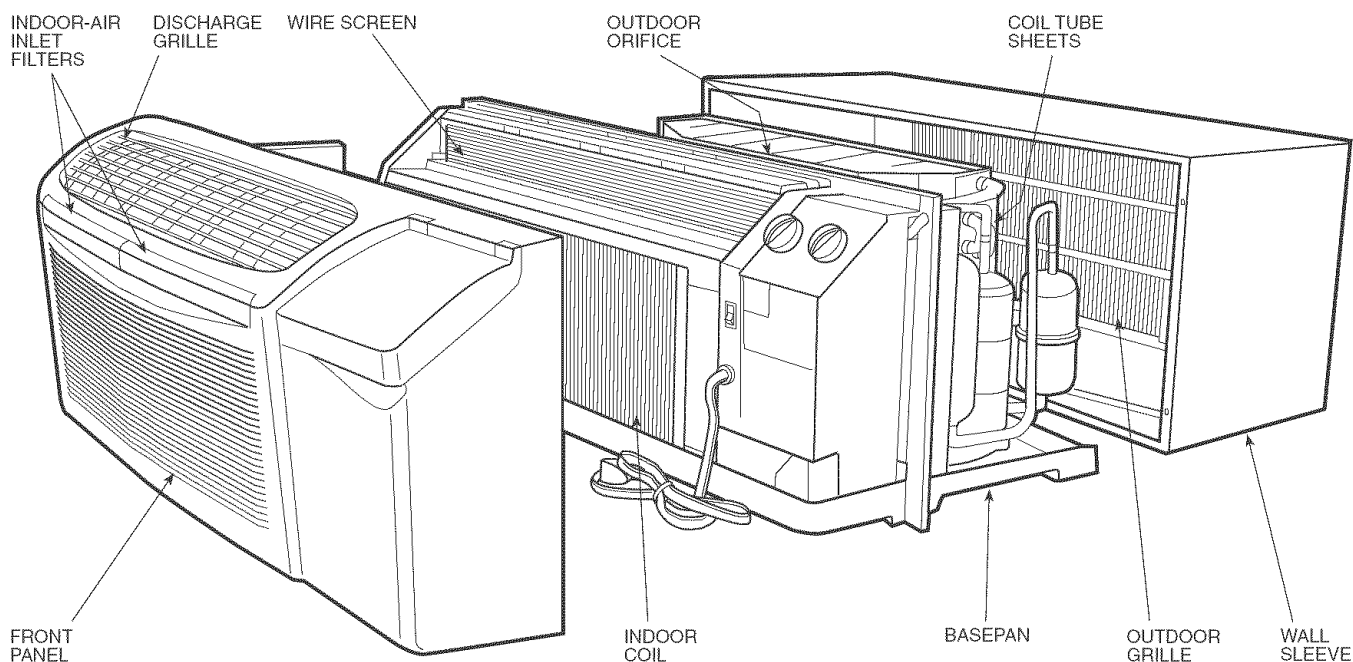

Fig. 8 — Unit Components
2. Gently pull the filter up and away from the unit. See Fig. 8 and 19.